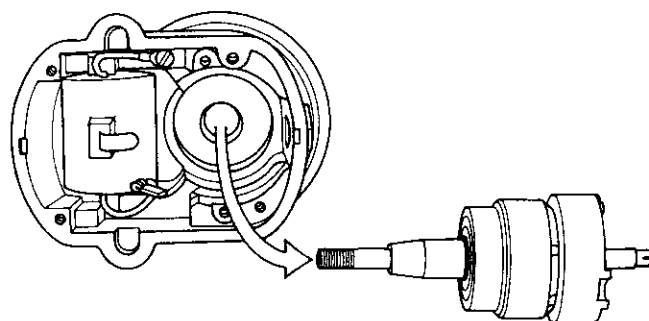

Figure 6.8
- B. Press against the drive end of the rotor shaft and withdraw the rotor and bearing cap assembly from the drive frame. (See Figure 6.8).